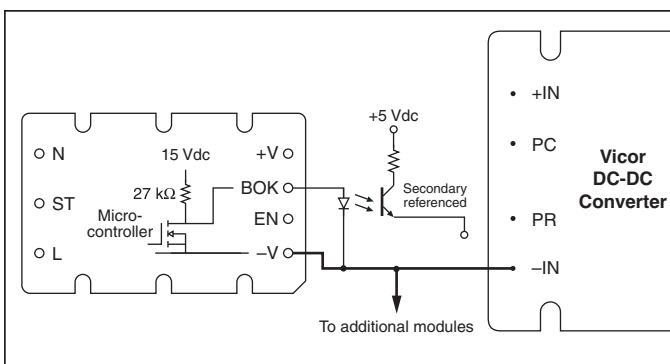

Figure 12 — Bus OK (BOK) isolated power status indicator
**Bus-OK (B OK) Pin.** (See Fig. 12). The Bus-OK pin is intended to provide early-warning power fail information and is also referenced to the negative output pin.
The power fail warning time ( $\Delta t$ ) is defined as the interval between (B OK) and converter shutdown (EN) as illustrated in Fig. 12. The Bus-OK and Enable thresholds are 205 V and 190 V, respectively. A simplified relationship between power fail warning time, operating power, and bus capacitance is obtained by inserting these constants: